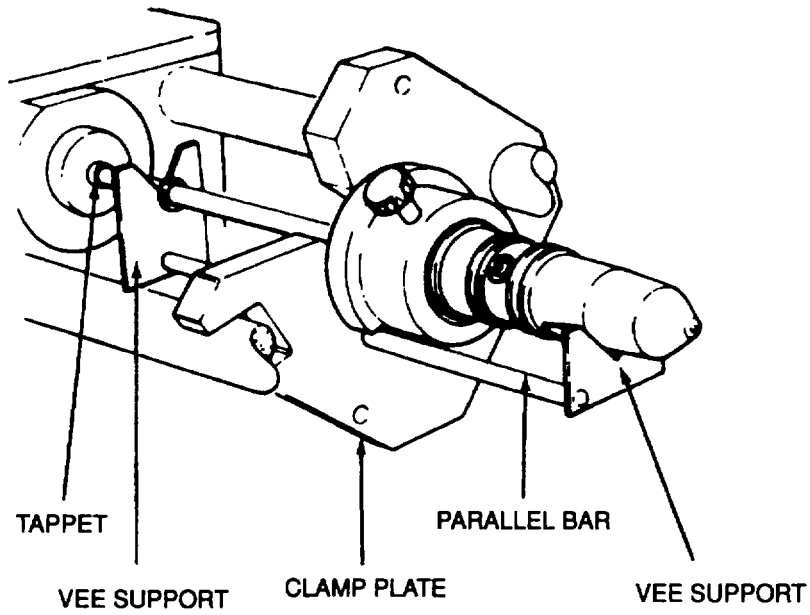

Figure 6-26. Loading Injector Into Test Stand
- (6) Raise the guard (23) and place the injector, adapter, and link into position (Figure 6-26). The two milled cut-outs in the adapter must fit over the parallel bars..